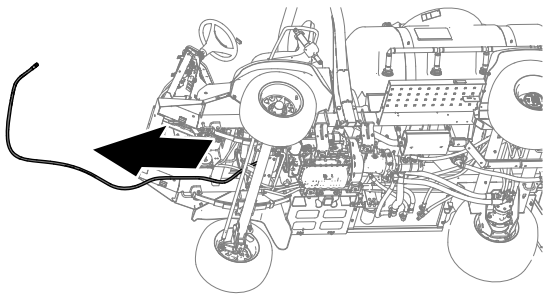

Figure 64
2. Disconnect the forward-pressure hose for the boom-lift manifold from the bulkhead fitting at the back end of the hydraulic tank (Figure 64).
3. Remove the forward pressure hose from the machine (Figure 64).